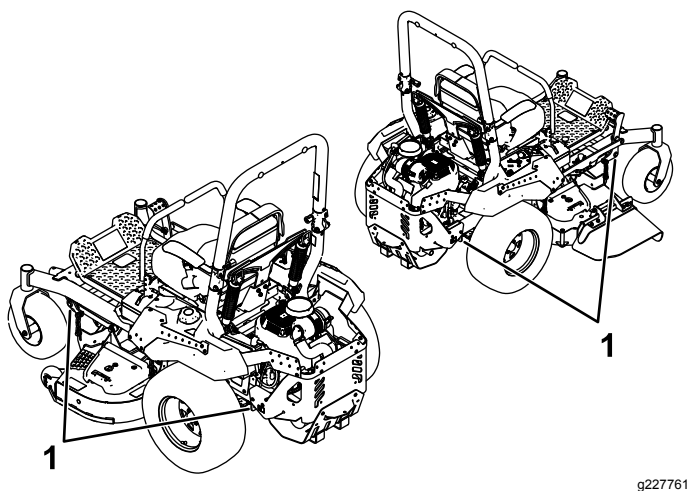

Figure 37
6. Tie down the machine near the front caster wheels and the rear bumper with straps, chains, cable, or ropes (Figure 37). Refer to local regulations for tie-down requirements.